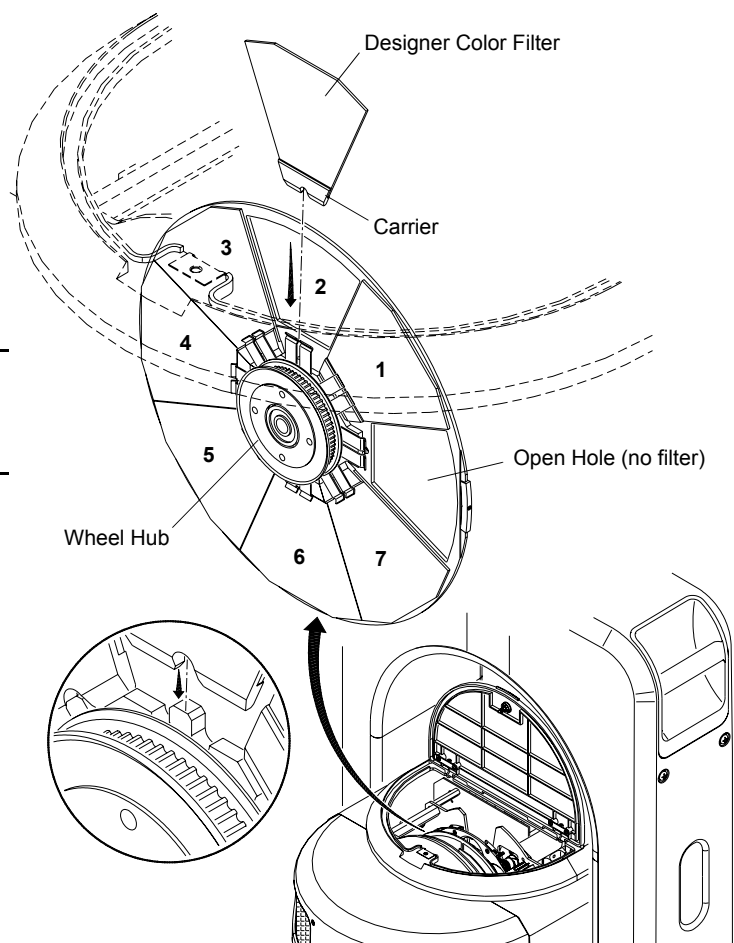

Figure 4-13: Replacing a Designer Color Filter
- Step 5. Using fingers, grasp frame of color filter and pull out of wheel hub (Figure 4-13).